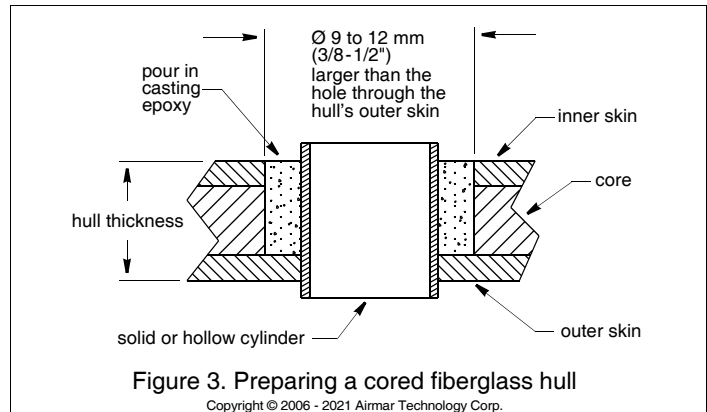

Figure 3. Preparing a cored fiberglass hull
2. Using a  $\text{Ø}$  51 mm or 2" hole saw, cut the hole from outside the hull through the *outer skin* only (Figure 3).